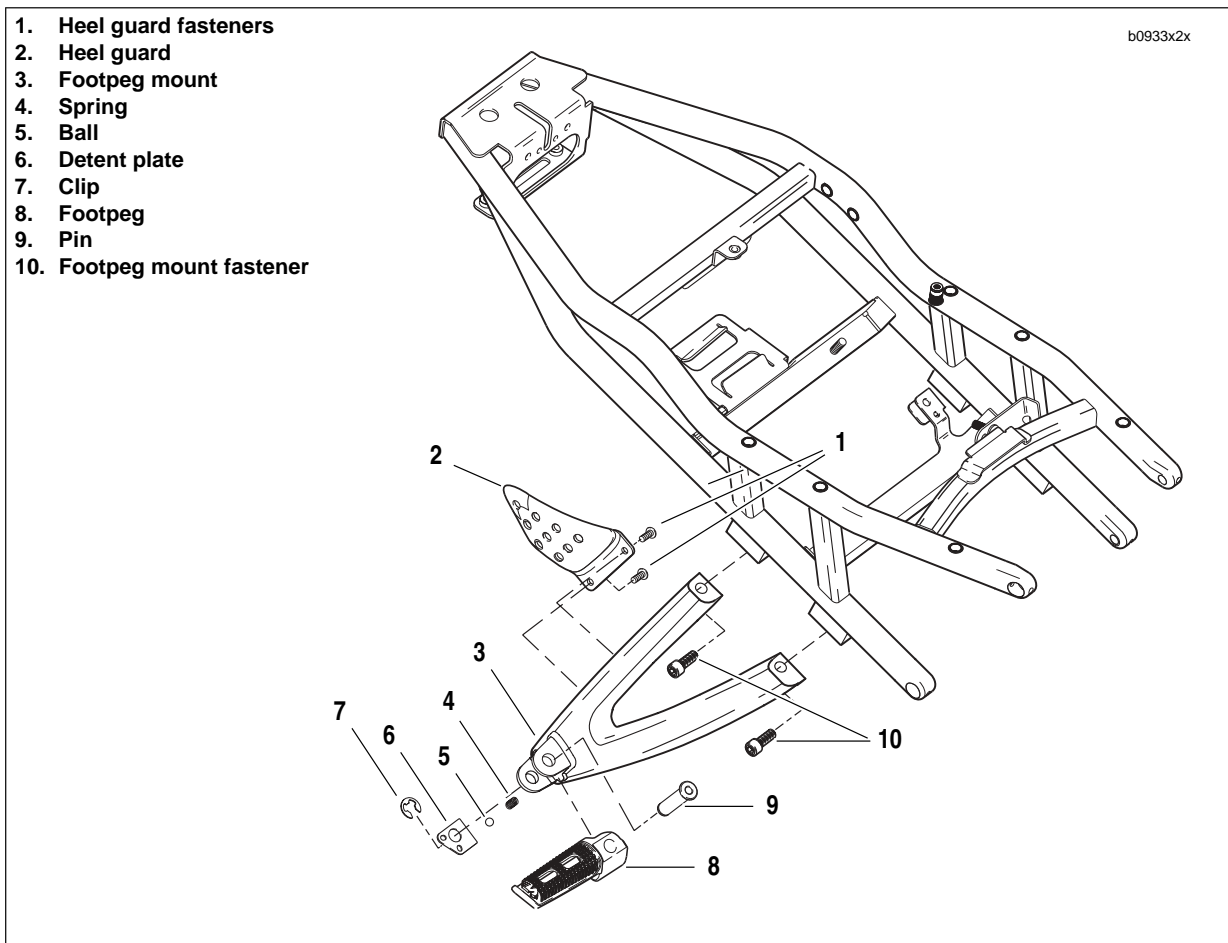

Figure 2-111. Passenger Footpeg, Mount and Heel Guard Assembly
1. See Figure 2-111. Remove clip (7).
2. Remove footpeg pin (9).
3. Remove footpeg (8), detent plate (6), ball (5) and spring (4).
1. See Figure 2-111. Remove heel guard fasteners (1).
2. Remove heel guard (2).
1. See Figure 2-111. Remove footpeg mount fasteners (10).
2. Remove footpeg mount (3).
1. See Figure 2-111. Position footpeg mount (3) onto sub-frame tail assembly.
2. Install footpeg mount (3). Using LOCTITE 271 tighten, fasteners (10) to 25-28 ft-lbs (34-38 Nm).
1. See Figure 2-111. Position heel guard (2) onto footpeg mounts (3).
2. Install heel guard (2).
1. See Figure 2-111. Position footpeg (8), detent plate (6), ball (5), and spring (4) on to footpeg mount (3).
2. Install footpeg pin (9).
3. Install clip (7).